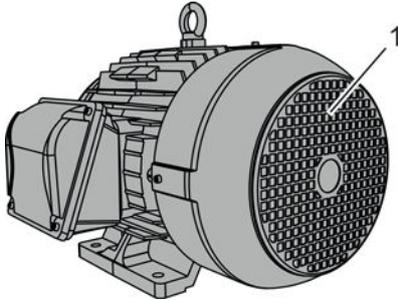

Fig. 42: Checking the rotation direction of the electric motor, example
2. Check that the direction of rotation for the electric motor (vent behind the ventilation grid, Fig. 42/1) matches the arrow for the direction of rotation of the machine.